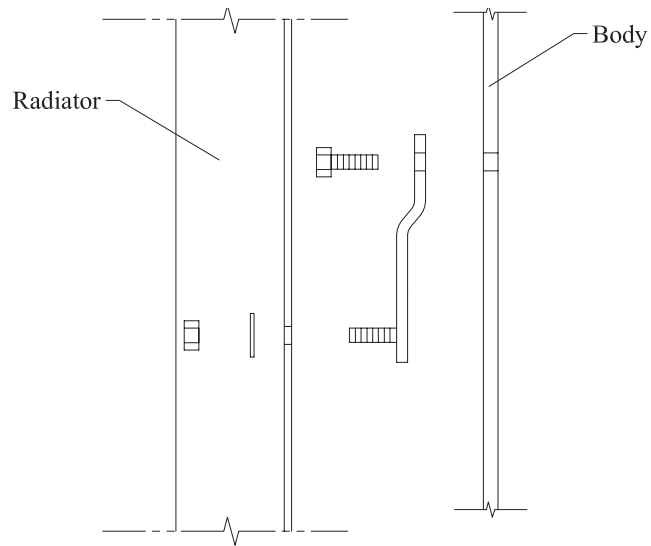

Figure 5
27. Reinstall radiator using the six radiator relocation brackets (Fig. 5). Mount the six relocation brackets to the original mounting holes in the body using the stock hardware. Mount the brackets in the correct position and tighten the bolts. Mount the radiator to the studs on the relocation brackets and fasten them with a 1/4" SAE washer and a 1/4"-20 lock nut. Reinstall power steering reservoir. Tighten all the remaining fasteners and check for fan-to-shroud clearance.